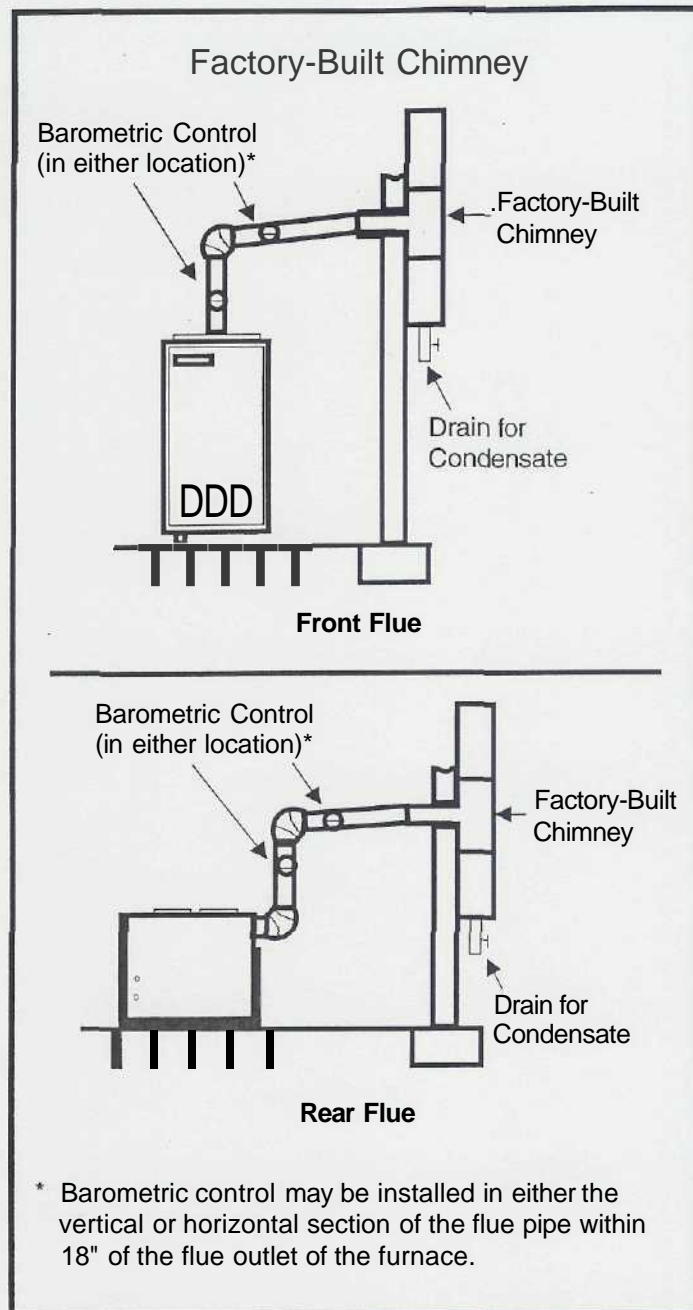
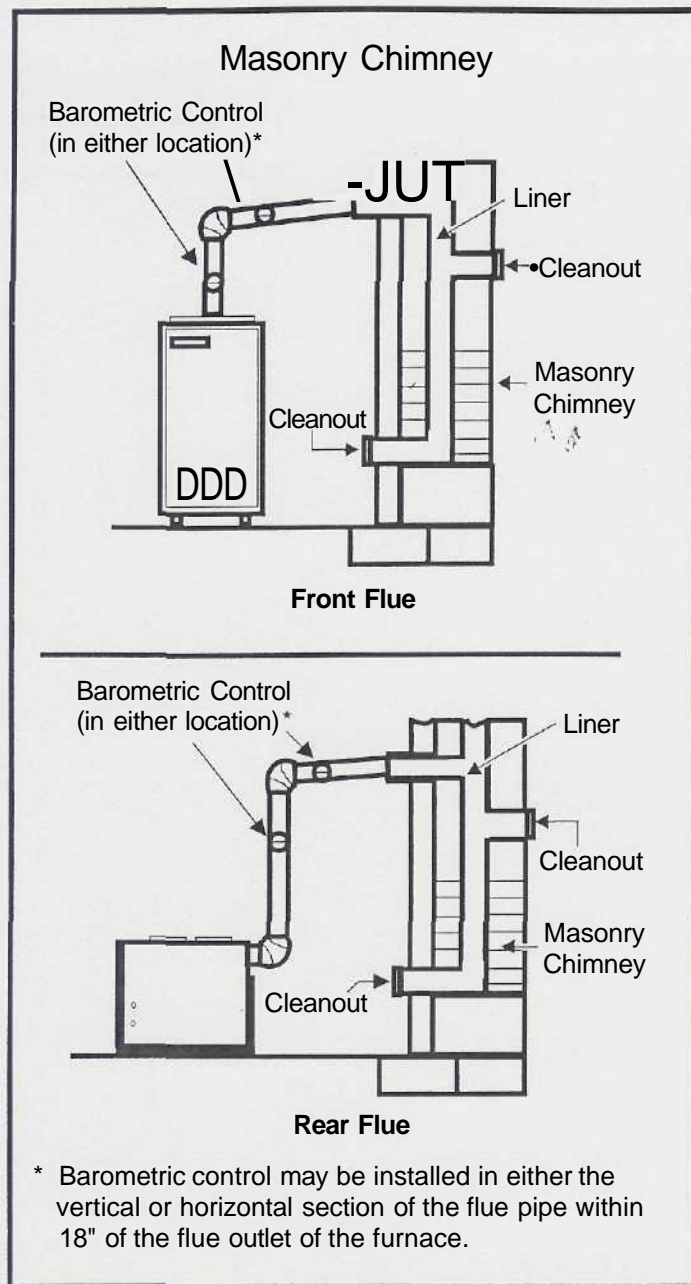

Figure 6
Figure 7
8. The flue pipe should slope upward toward the chimney on a horizontal run of at least 1/4" per foot and should be supported by something other than the furnace (see Figure 6 on this page and Figure 7 on page 8).
14. All vent pipe run through unconditioned areas or outside shall be constructed of factory-built chimney sections (see Figure 6).
15. Where condensation of flue gases is apparent, the vent shall be constructed to prevent the condensation from entering the flue transition box opening. Provisions shall be made to drain off the condensate (see Figure 6).